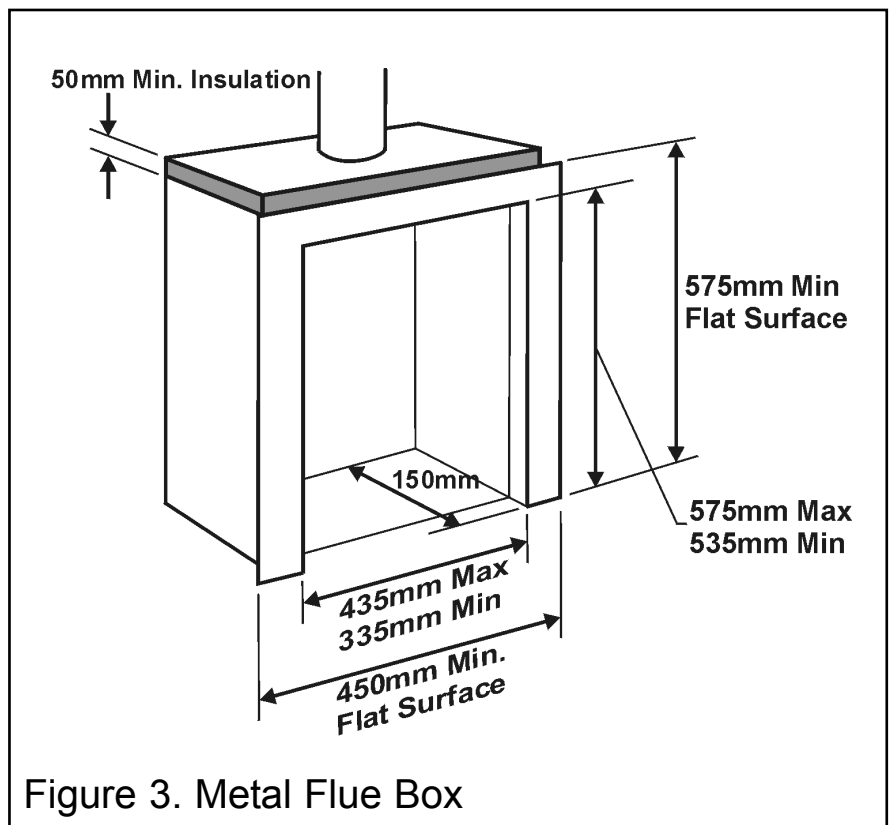

Figure 3. Metal Flue Box
**3.9.3** A metal flue box conforming to BS715 with a minimum internal depth of 150mm. Incombustible mineral wool insulation of not less than 50mm thickness must be applied to the top surface of the firebox and it must stand on a non-combustible hearth. See figure 3.